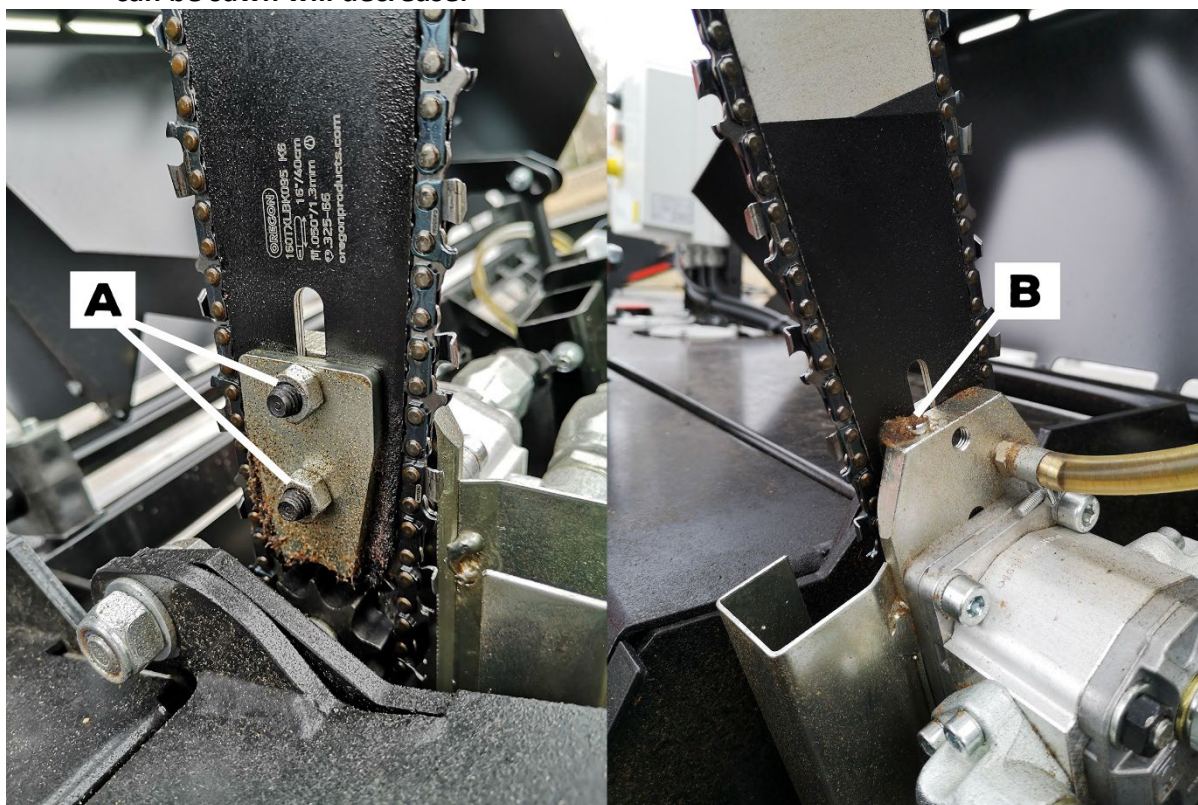

Figure 34
- 2 Loosen the attachment nuts for the saw-bar (using a 13-mm wrench). Fig. 34 A.
- 3 Loosen the tightening screw for the saw-bar. Fig. 34 B.